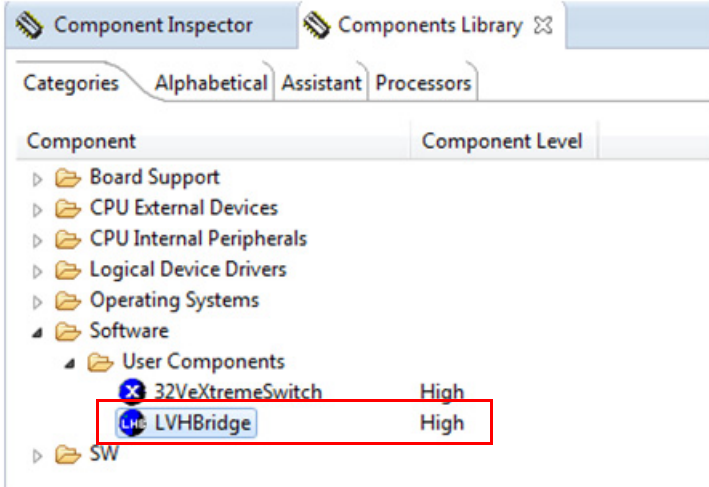

Figure 7. LVHBridge component location after CodeWarrior import
- 3. If the import is successful, the LVHBridge component appears in Components Library -> SW -> User Component (see Figure 7). Note that the component **ChannelAllocator** is not visible, because it is not designed to be used by users. The LVHBridge component is ready to use.